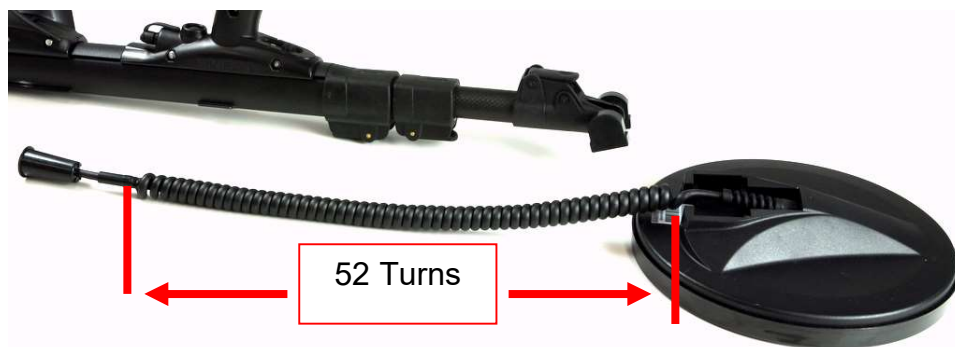

Figure 30: Coil Cable with 52 Turns.
- Prior to threading the cable through the shafts, ensure the cable has 52 turns in the coil cable curly section. Shown in Figure 30